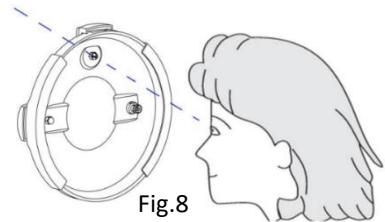

Fig.8
1. Before use, make sure that the hole of both safety valve and steam-releasing pipe is unobstructed. If any of them is obstructed, clear them with the dredging needle. (Fig. 8 Observe the steam-releasing is obstructed or not.)